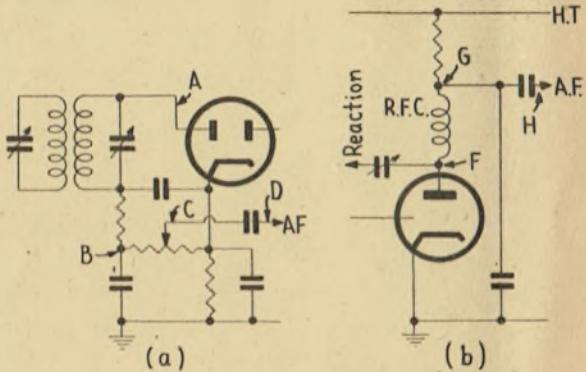
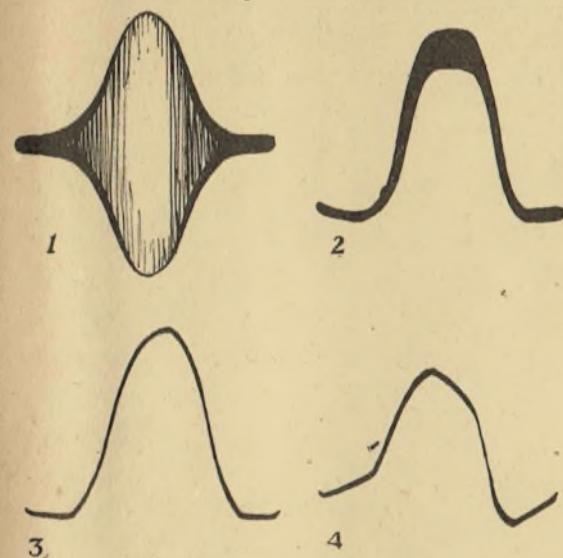

Fig. 5.
Fig. 6.
give skeleton circuits for the detector stages of a superhet. (Fig. 5(a)) and a straight set (Fig. 5 (b)), and show the various points for oscilloscope connec-
tion. Taking Fig. 5 (a) first, connection between A and chassis will give an "envelope" response as shown in Fig. 6 (1). For this the normal dummy aerial should be replaced with a very small con-
denser of 1-2 mmfd., which can be conveniently "manufactured" at the bench by twisting together two short lengths (about 1 in. to 1½ in.) of insulated wire with a couple of turns. Point B will give the detected but unfiltered A.F. response which will have the residual I.F. superimposed on it to give an effect like that of Fig. 6 (2). Point C will give the filtered A.F. curve of Fig. 6 (3), which should be bright, fine, and clear, and is probably the best connection to make. The signal generator coupling condenser for the latter two curves should be of generous proportions of .25-.5 mfd. Point D is not quite so good because the receiver's coupling condenser may introduce some phase distortion and give a curve somewhat as shown in Fig. 6 (4).
Fig. 5 (b) represents a typical detector stage in a straight set, and the two main oscilloscope connections are at F and G. If the connection is made through a very small condenser and the oscilloscope amplifier, we shall get an R.F. envelope curve like Fig. 6 (1), because the small condenser will block the A.F. If a large condenser is used we shall get both the R.F. and A.F. with an image like Fig. 6 (2). Connected at point G through a large condenser, we should obtain a clear-cut curve like Fig. 6 (3), while the point H is comparable with the point D of Fig. 5 (a). By the way, as the oscilloscope is not fussy about which way it paints the picture, there is no cause for alarm if the response curve is inverted, for the alignment operation will not be affected in any way. The "Y" shift will be used to centralise the curve, as a whole, on the screen by altering the level of the base line.